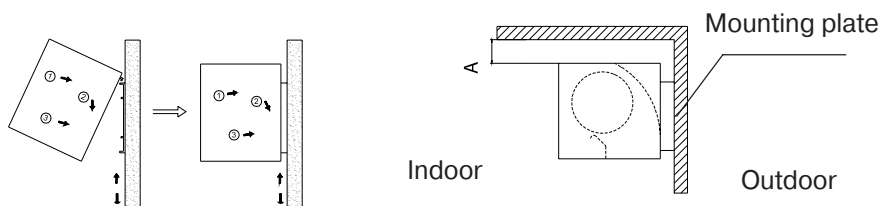

Figure 6. Air Curtain Installation on the mounting plate.
e) Install Air Curtain on the mounting plate. A interval must be more than 100 mm (Fig.6)